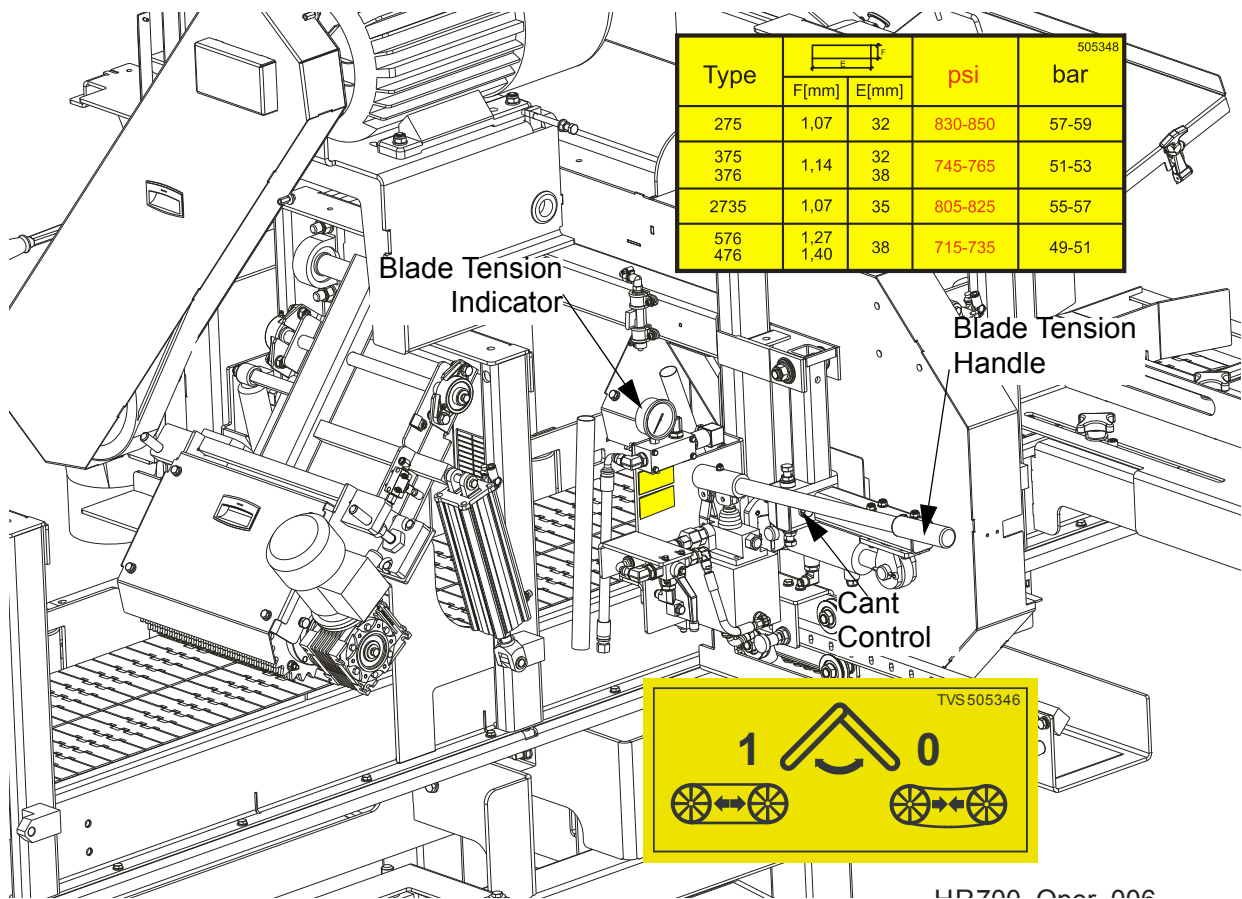

FIG. 2-11
See Figure 2-11. Place the provided handle in the blade tensioner socket and secure with a screw. Set the tensioner valve to the "1" position. Move the tensioner handle up and down to tension the blade. Depending on the installed blade type, tension the blade to the value shown on the decal located below the blade tension valve. The values "F" and "E" are: blade thickness and blade width. Check the blade tension occasionally when adjusting the cant control or while cutting and adjust if necessary. As the blade and belts heat up and stretch, the blade tension will change. Also, ambient temperature changes can cause tension to change. To release the blade tension, set the tensioner valve to the "0" position.
5. Use the cant adjustment bolt, shown in **Figure 2-11**, to adjust where the blade travels on the blade wheels.